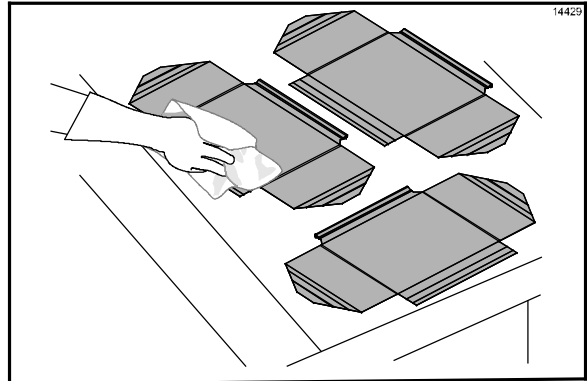

Figure 110
42. Rinse both sides of the release sheets with a clean, sanitizer-soaked grill cloth. (See Figure 110.)